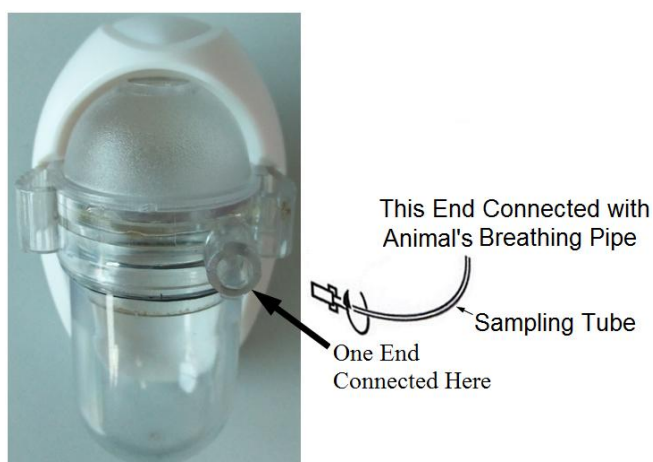

Figure 6.45 Dewatering Bottle Connecting Diagram
3. As shown in Figure 6.45, connect one end of the sampling tube with the dewatering bottle's threaded nipple and the other end with the breathing tube of the animal's breathing machine or anesthesia machine or with the threaded nipple having a diameter of $\phi 10\text{mm}$ in other airways (a section of connecting tube having a $\phi 10\text{mm}$ threaded nipple needs to be connected if such source nipple is not available), or directly fixing the sampling tube to the animal's nostrils by using adhesive tape.